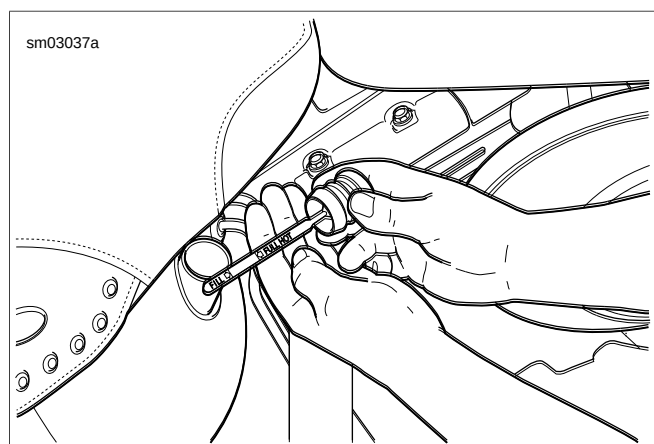

Figure 1-1. Checking Oil Tank Level
See Figure 1-1. Checking engine oil level:
2. See Figure 1-1. Remove the engine oil filler plug/dipstick by pulling steadily while moving plug back and forth.